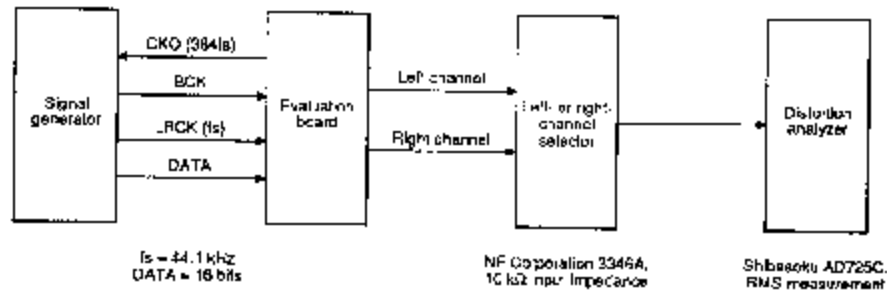
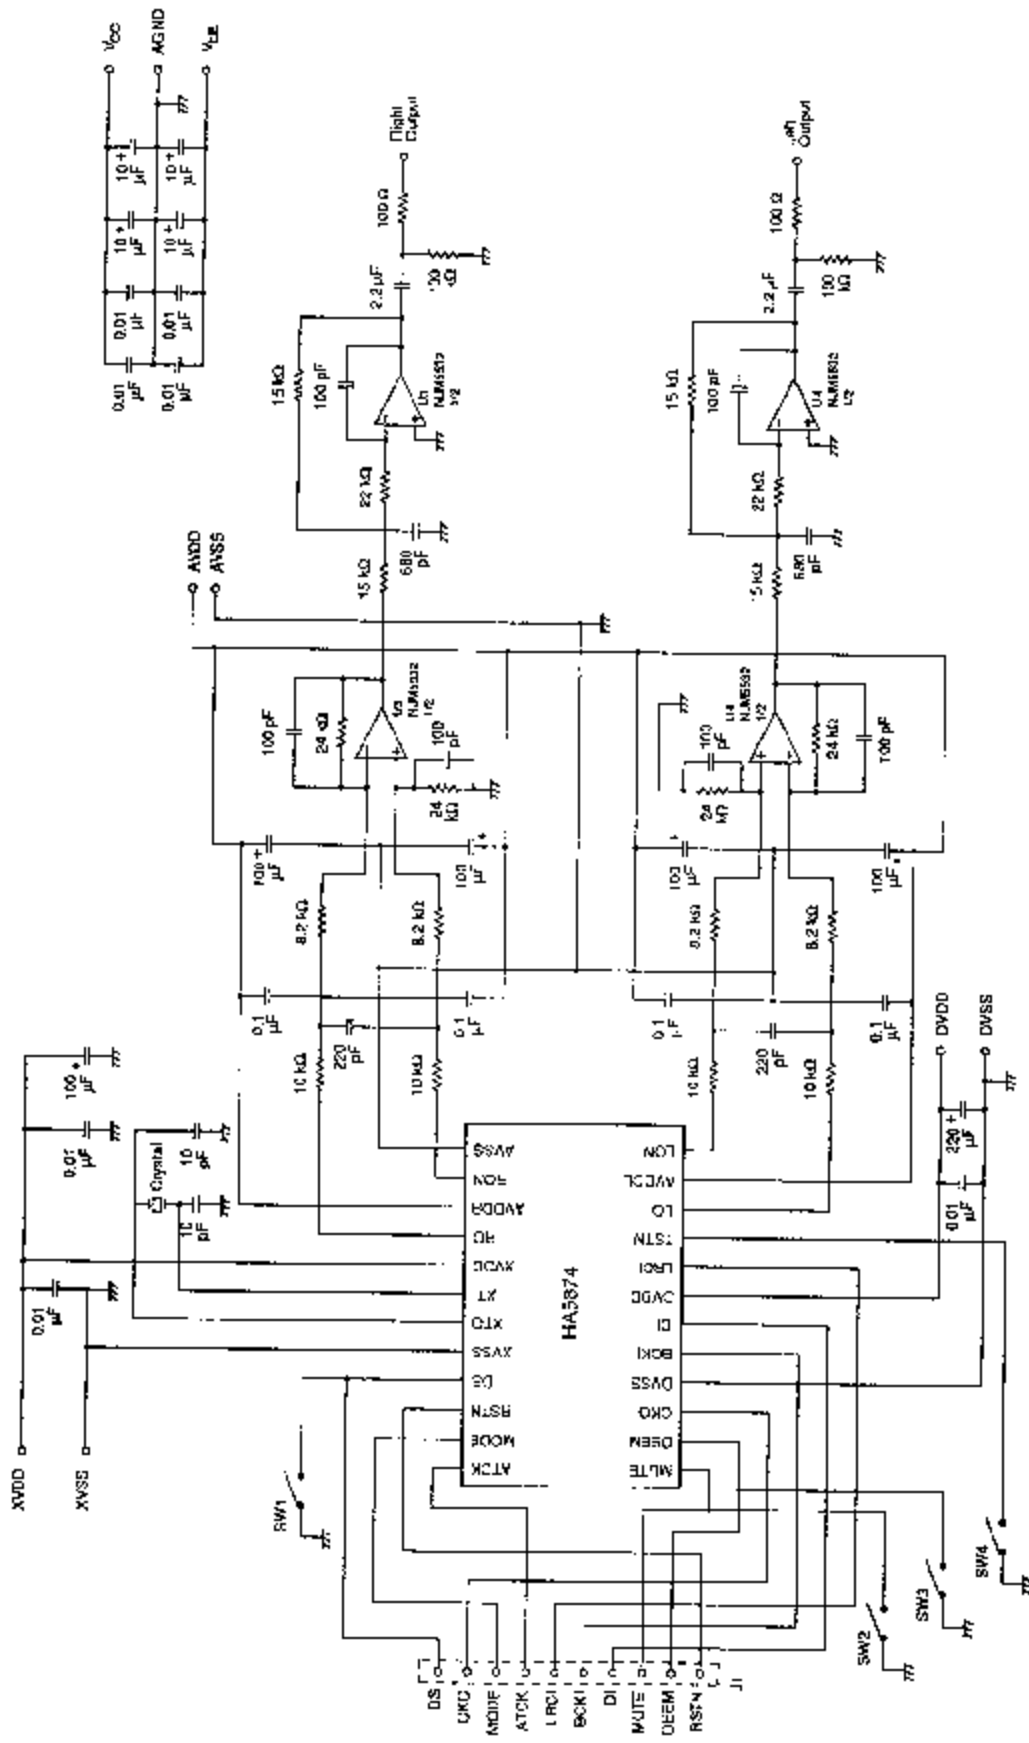

Figure 1. Measurement circuit block diagram
Figure 2 Measurement circuit
1. The measurement circuit block diagram is shown in figure 1. The measurement circuit itself is shown in figure 2.